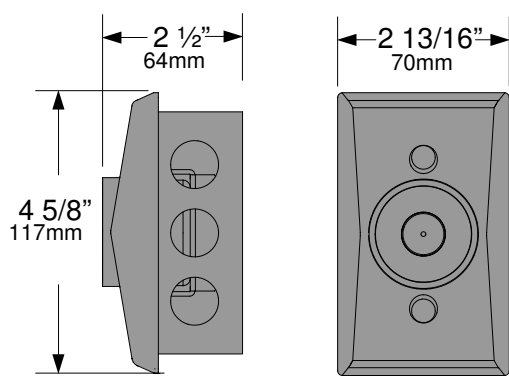

Fig. 2
- C. See Fig. 2. The center of the junction box should be located about 5" from the top of the door. Install junction box to withstand at least a 50 pound pull.
- C. See Fig. 2. With the magnet wired, position the magnet bracket assembly into the junction box and attach it to the box using the (2) 6-32 screws. Tighten firmly. Attach the cover housing using the (2) 10-24 screws from step 2A.